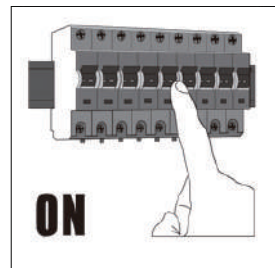

Figure 7
Step 7: Turn on the electrical (Figure 7)